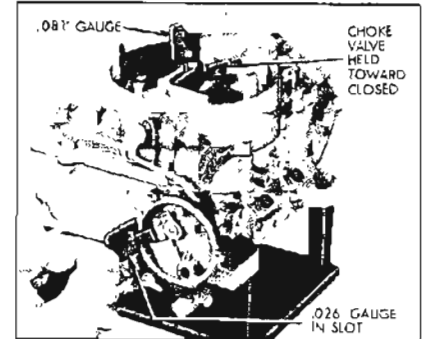

Figure 3-53—Choke Piston Adjustment place Tool J-5197 on lower section of choke rod and bend as necessary.
1. Adjust Choke Piston Linkage. Inside choke piston bore on left side, about $1/2$ inch down, is a small slot. Insert $1/8$ inch bent end of $.026$ " wire gauge into upper end of slot; then close choke valve by pressing on piston lever in choke housing until piston stops against gauge. Check opening between upper edge of choke valve and inner wall of air horn using $.081$ " Wire Gauge. See Figure 3-53. If adjustment is required,